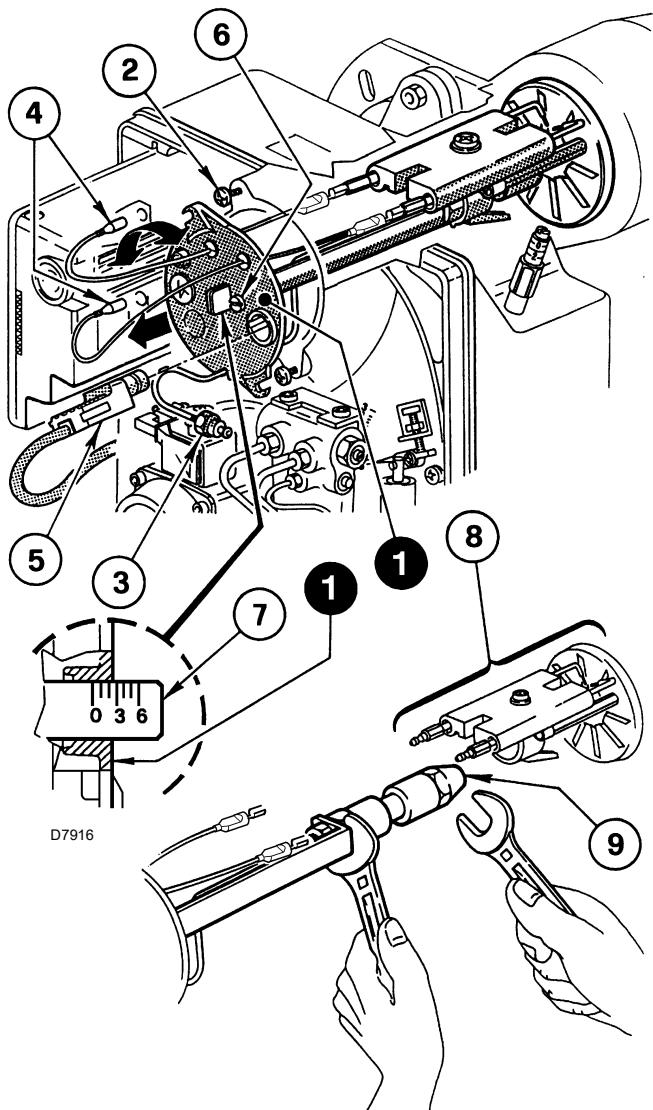
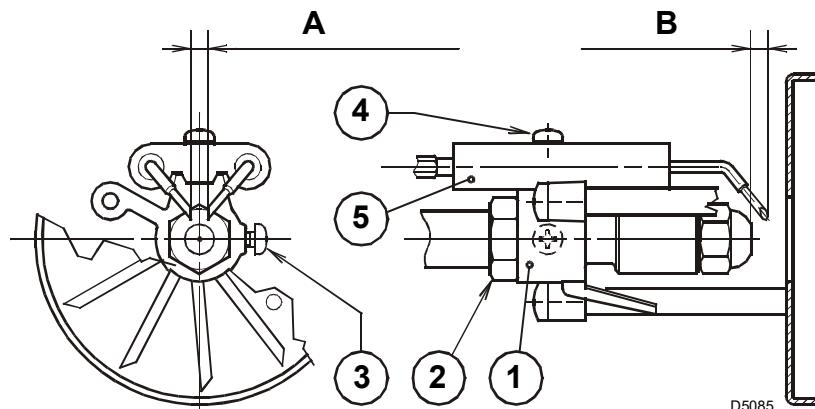

Fig. 11
Fig. 13
- take out the nozzle-holder assembly 1)(Fig. 11) after loosening the screws 2)(Fig. 11), having unscrews the nuts 3)(Fig. 11), removed the wires 4)(Fig. 11) from the flame control and the flame sensor 5)(Fig. 11).
- Take out the wires 4)(Fig. 11) from the electrodes, remove the nozzle-holder assembly 1)(Fig. 11) the diffuser disc-holder assembly 8)(Fig. 11) after loosening the screw 3)(Fig. 13).
- Screw in the nozzle 9)(Fig. 11) tightening it correctly as shown in Fig. 11.
- turn the adjustment screw 6)(Fig. 11) clockwise or anti-clockwise until the notch on the regulating rod 7)(Fig. 11) lines up with the outer surface of the nozzle-holder assembly 1)(Fig. 11).
These dimensions Fig. 13 must be respected.
- rest the diffuser disc-holder assembly 3)(Fig. 13) against the nozzle holder 2)(Fig. 13) and lock it in place with the screw 4)(Fig. 13).
- For any adjustments of the electrodes assembly 5), loosen screw 6)(Fig. 13).